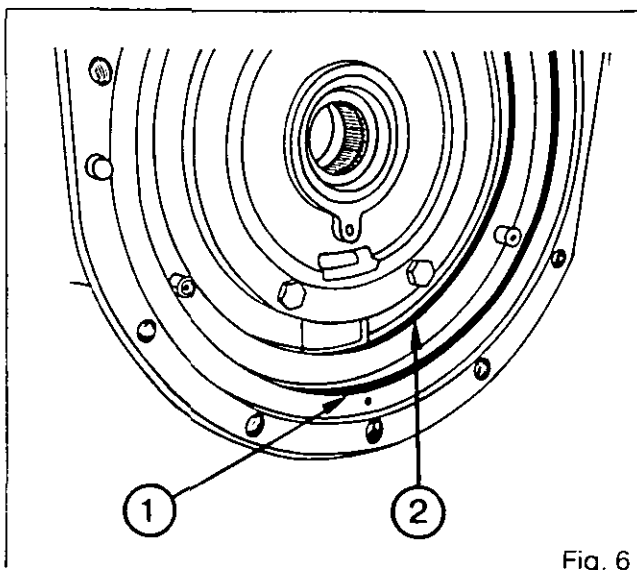

Fig. 6
- Fit new O-rings (1) and (2) (Fig. 6).